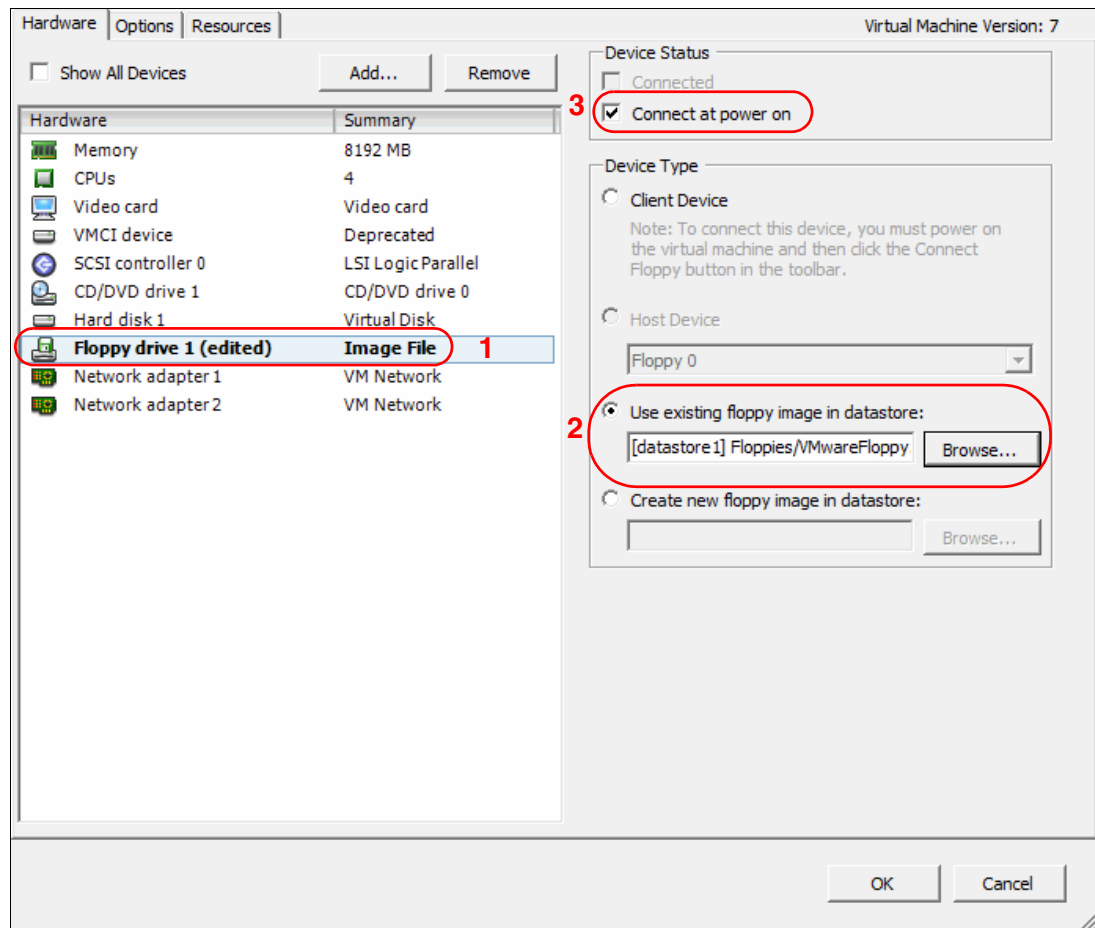

Figure 3-63 Choose floppy image
16. Select **Floppy drive** (Figure 3-63), and navigate to connect the virtual floppy image uploaded previously. Select **Connect at power**. *Do not click OK yet.*